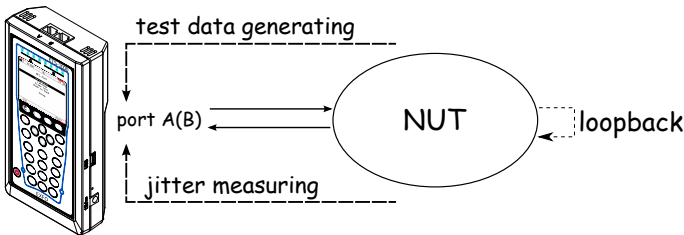

Figure 5.89. Jitter measurements. Scheme 1
- test data is generated and then jitter is measured at the same port (see fig. 5.89);